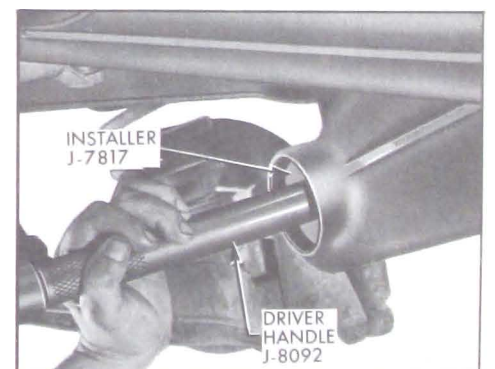

Fig. 6-18—Installing Front Pinion Bearing Outer Race
2. If front pinion bearing is to be replaced, install new outer race using Installer J-7817 with Driver Handle J-8092. See Figure 6-18.